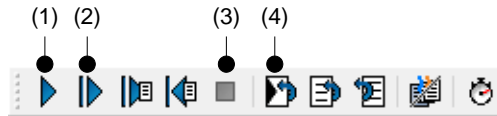

Figure 2.6: The basic execution buttons: (1) run continuously, (2) run step-by-step, (3) stop, (4) reset.
- Click **Execute > Run** or click the corresponding button (1) from the tool bar (see figure 2.6).
- Click **Reset Program Execution** (4) to reset the program to its initial state. (see figure 2.6).
- Using the button **Step Over** (2) you can execute the program line by line and inspect the immediate effect of each instruction.